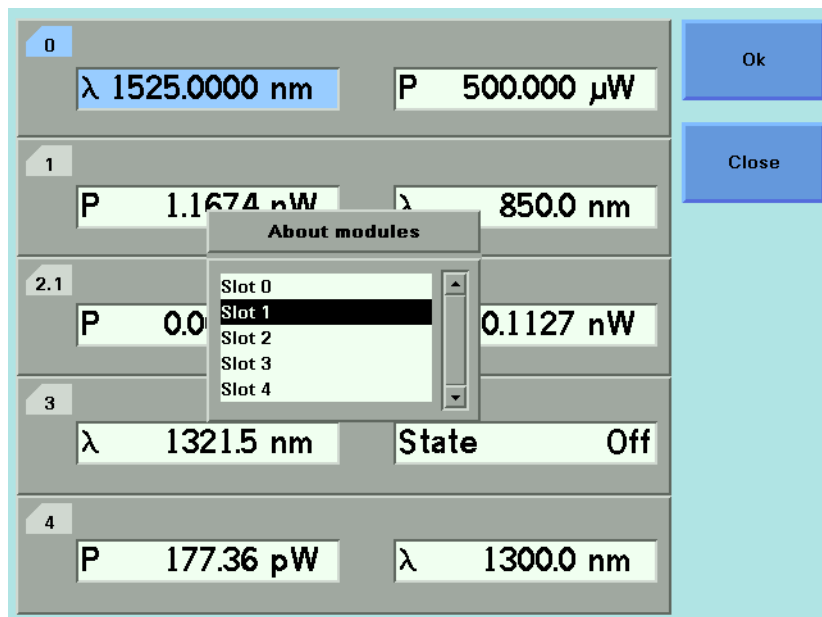

Figure 37 Slots with Installed Modules
- 2 Move to the *<About Modules>* menu option and press *Enter*. You see a box displaying the slots which have installed modules, see Figure 37 .
- 5** Press [Close] to return to the menu in Figure 37 .